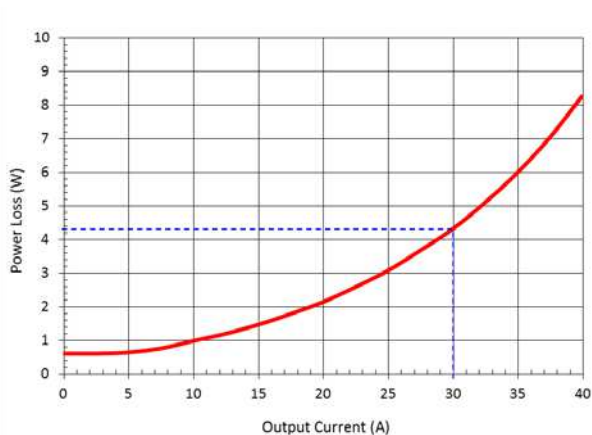
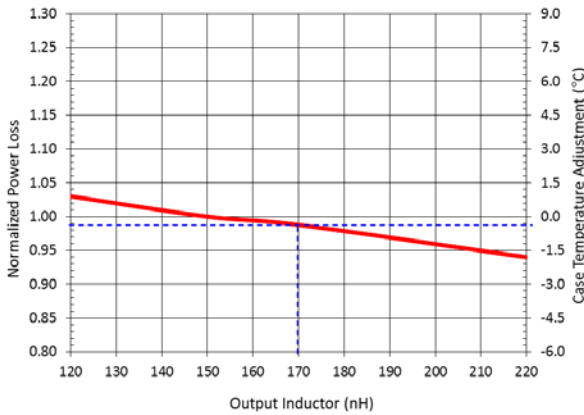

Figure 9: Typical IR3552 Power Loss, 400kHz
Figure 14: Normalized Power Loss vs. Output Inductor (Circuit of Figure 31)
The measured single-phase IR3552 power loss under the same conditions is provided in Figure 9.
If any of the application condition, i.e. input voltage, output voltage, switching frequency, VCC MOSFET driver voltage or inductance, is different from those of Figure 9, a set of normalized power loss curves should be used. Obtain the normalizing factors from Figure 10 to Figure 14 for the new application conditions; multiply these factors by the power loss obtained from Figure 9 for the required load current.
6) Determine the inductance normalizing factor with $L=170nH$, which is 0.985 based on the dashed lines in Figure 14.